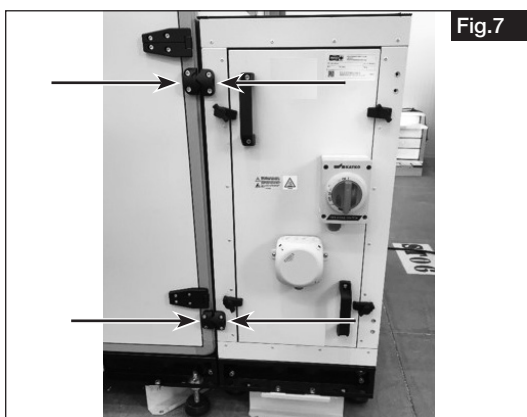

Fig.7
5. Tighten the screws. (Fig. 7).